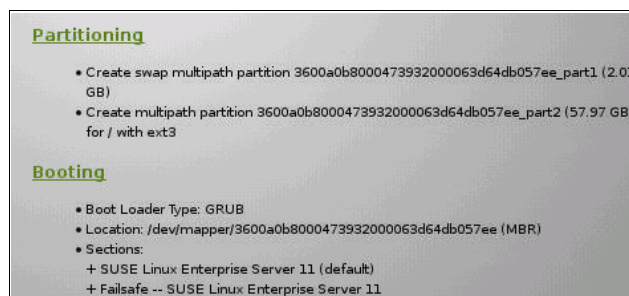

Figure 2-107 Verifying the new Location to the grub
14. Now we see that the location was updated as shown in Figure 2-107. After this setting, the rest of the installation panels are left as default. The rest of the SUSE installation panels are not shown here.